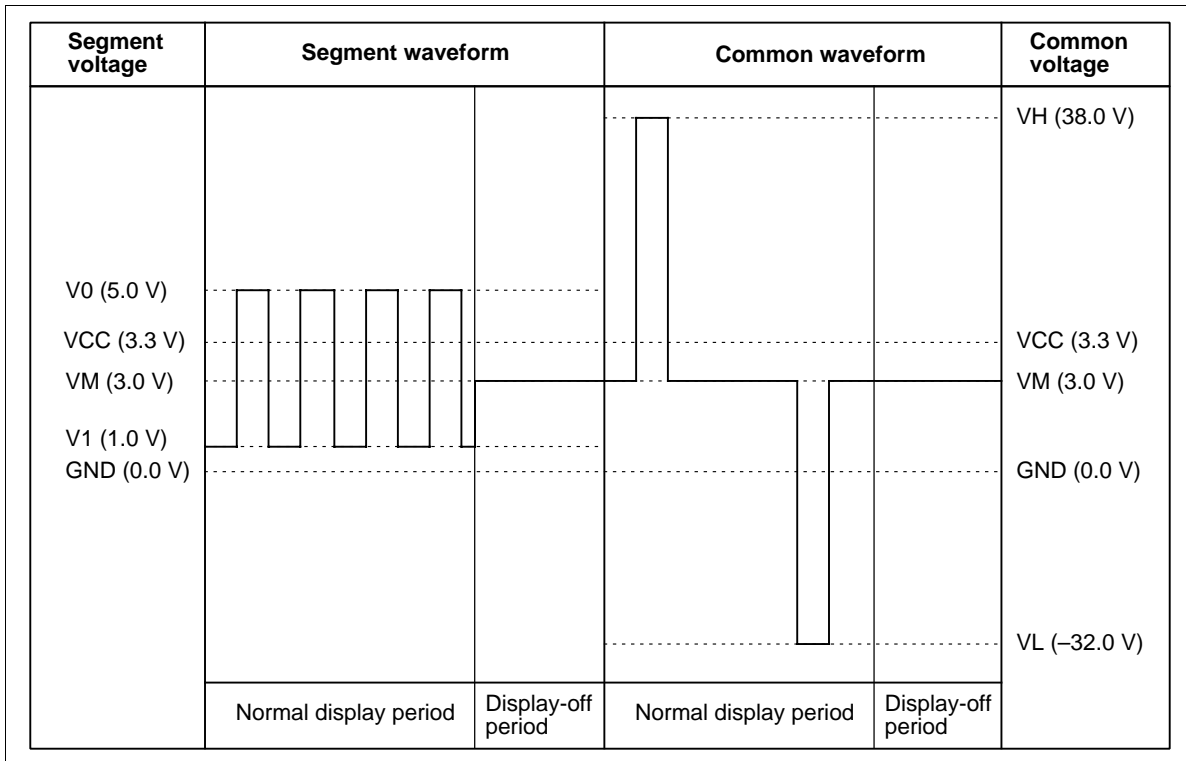

Figure 5 Signal Voltages
3. The voltage of each signal is shown in figure 5.